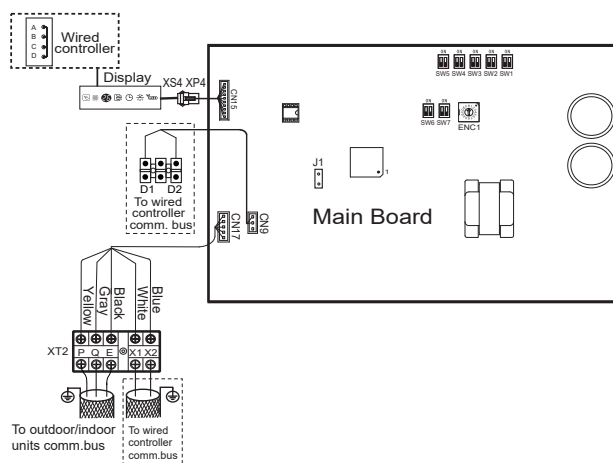

Figure 31.
- The X1, X2, D1, D2 ports on the sides of the main control board and the unidirectional communication port (display board side) are for different types of wired controllers. See Figure 31.